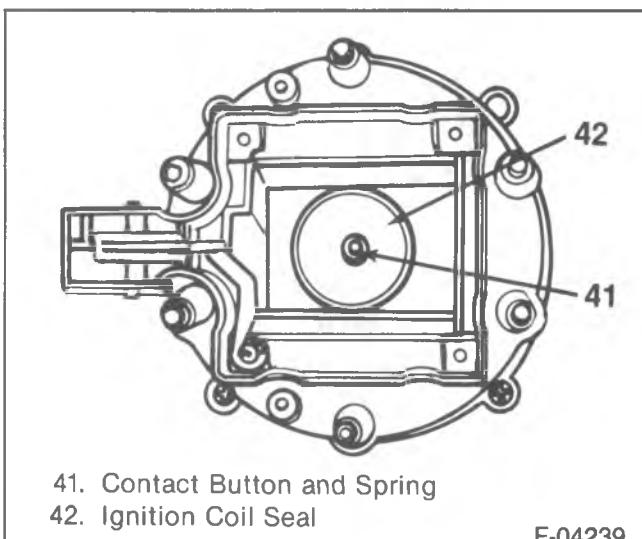

Figure 52—Cap and Seal
3. Seal and the button in the cap (figure 52). Replace the button if the end that contacts the distributor rotor is pitted or burned.
1. Spring, button (41) and seal (42) into the cap (figure 52).